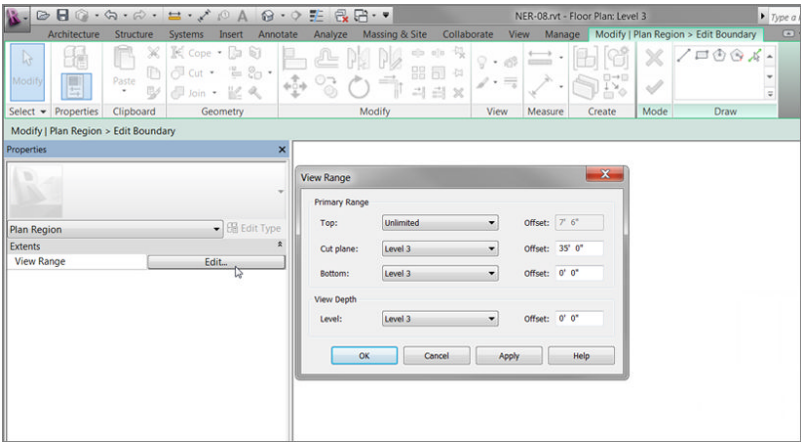

FIGURE 7.36: Setting the View Range for the plan region
5. In the Properties dialog box, click the Edit button in the View Range row (see Figure 7.36).
6. In the View Range dialog box, set Top to Unlimited and Level 3 Cut Plane Offset to 35'-0" (11500mm), as shown in Figure 7.36.